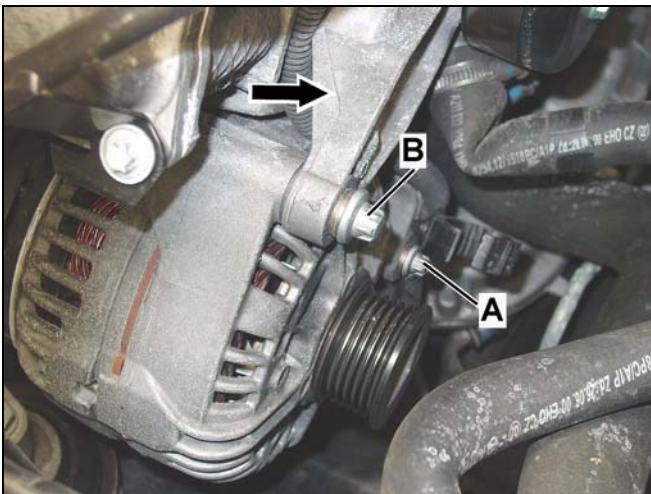

Figure 13
- Loosen upper alternator mounting bolt (B, Figure 13).
- Remove lower alternator mounting bolt (A), then remove upper alternator mounting bolt (B).